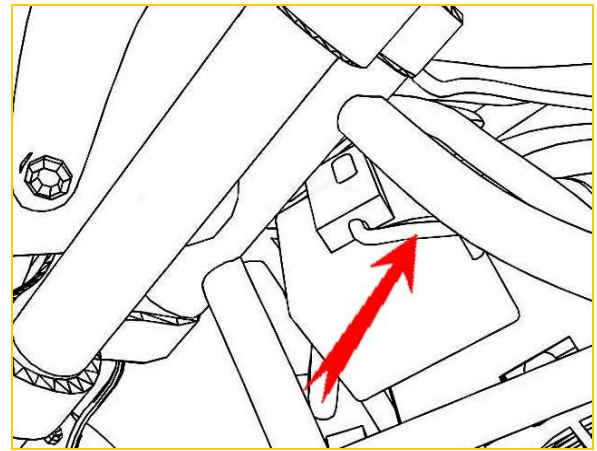

Fig 10
11. Route Zodiac Tfi harness between the frame and the OEM harness that goes over the battery negative. (Fig 10)